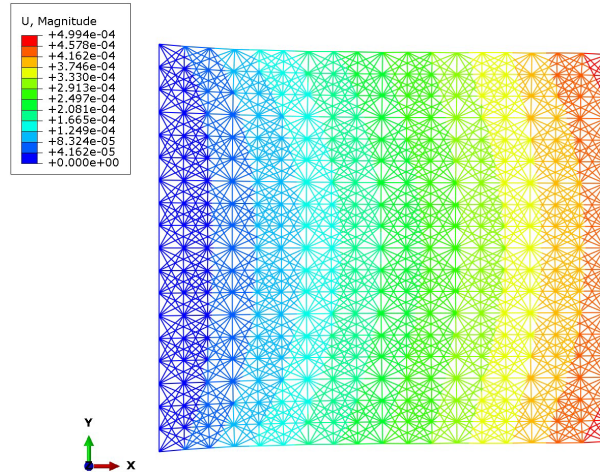

Figure 3: Displacement Contour map
- Displacement Contour Map: Displays the nodal displacement field U over the deformed domain as illustrated in figure 3.